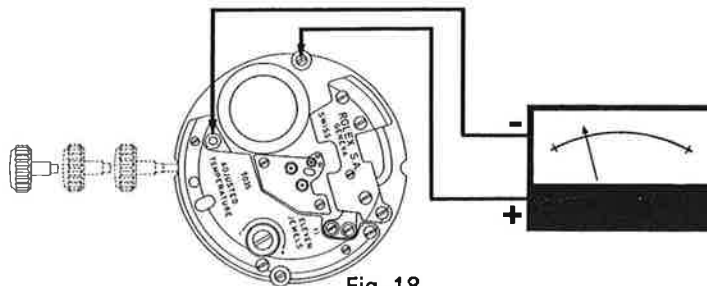

Fig. 18
- 9.19. Fit the handset stem in position 3 (no current supply to motor) and measure the consumption of the electronic module (Fig. 18) which should be \leq to $3 \mu\text{A}$.